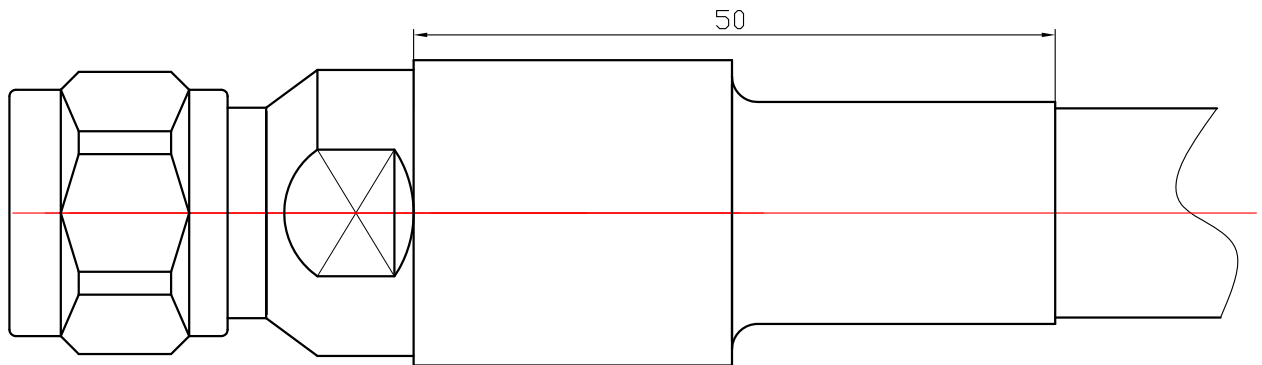

Fig. 9
6. Put half of the heat shrinkable sleeve on the cable and the other half on the connector, and use the hot air gun to move from one end to the other in the circumferential direction. Heat the heat shrinkable sleeve evenly at the other end to make it tightly wrapped on the cable and connector, and there is glue from the unitary end of the sleeve. See Fig. 9 for details